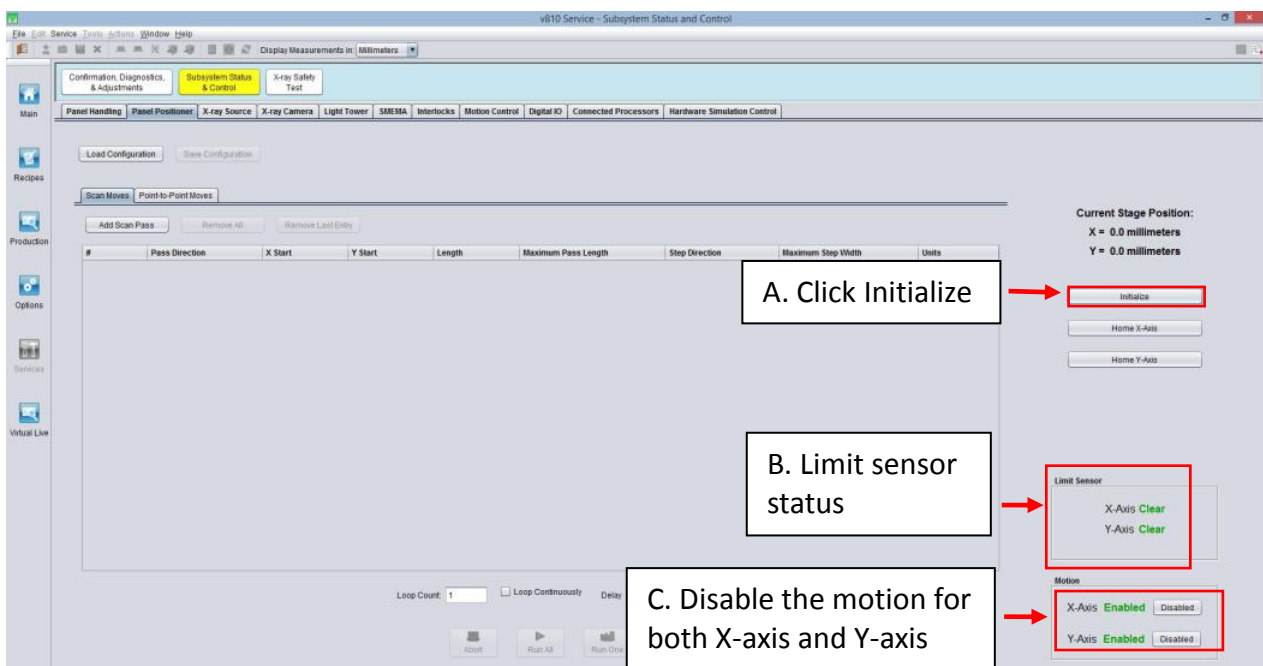

Figure 20 Panel Positioner
22. Go to the Panel Positioner tab and click Initialize. The limit sensor status for the X-axis should be clear. Disable the Motion for the X-axis and Y-axis as shown in Figure 20. Close the X-ray source and open the front door.